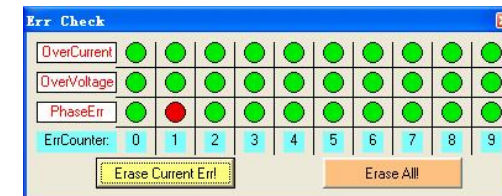

Figure 27: Error check window
- I **Error Check:** This window shows both the present status of each error event and their history. Current error event(s) can be reset by clicking **Erase Current Err!** button, and all error events can be reset by clicking **Erase All!** button. List of the last ten drive faults. #0 being the most recent, #9 is the oldest. See Figure 27.